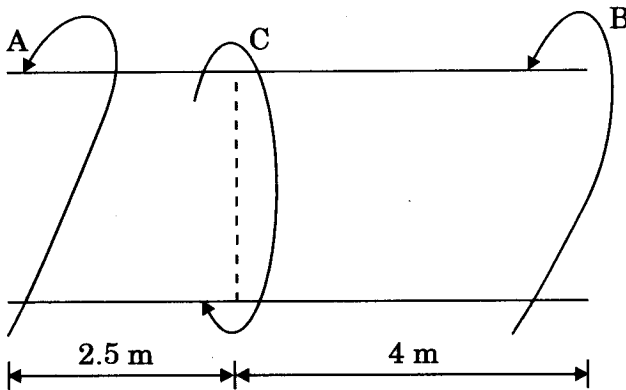

Figure 3
8. A solid shaft 6.5 m long is securely fixed at each end. A torque of 91 Nm is applied to the shaft at a section 2.5 m from one end as shown in Figure 3. Find the fixing torques set up at the ends of the shaft.